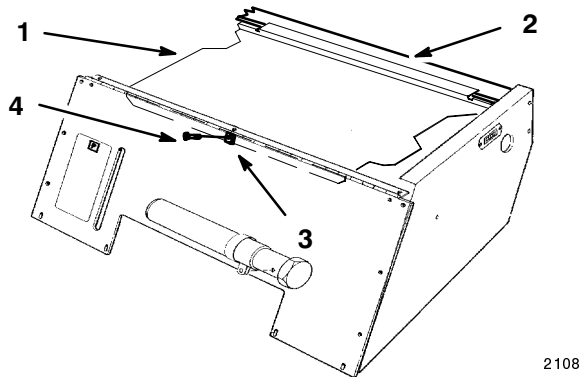

Figure 13
1. Raise seat and remove center bolt (Fig. 13).
2. Remove guard from interlock rear lip in rear of opening (Fig. 13).
3. Lift guard out (Fig. 13).
2. Interlock rear lip of belt guard into rear of opening (Fig. 13).
3. Secure center bolt into speed nut and belt guard (Fig. 13).